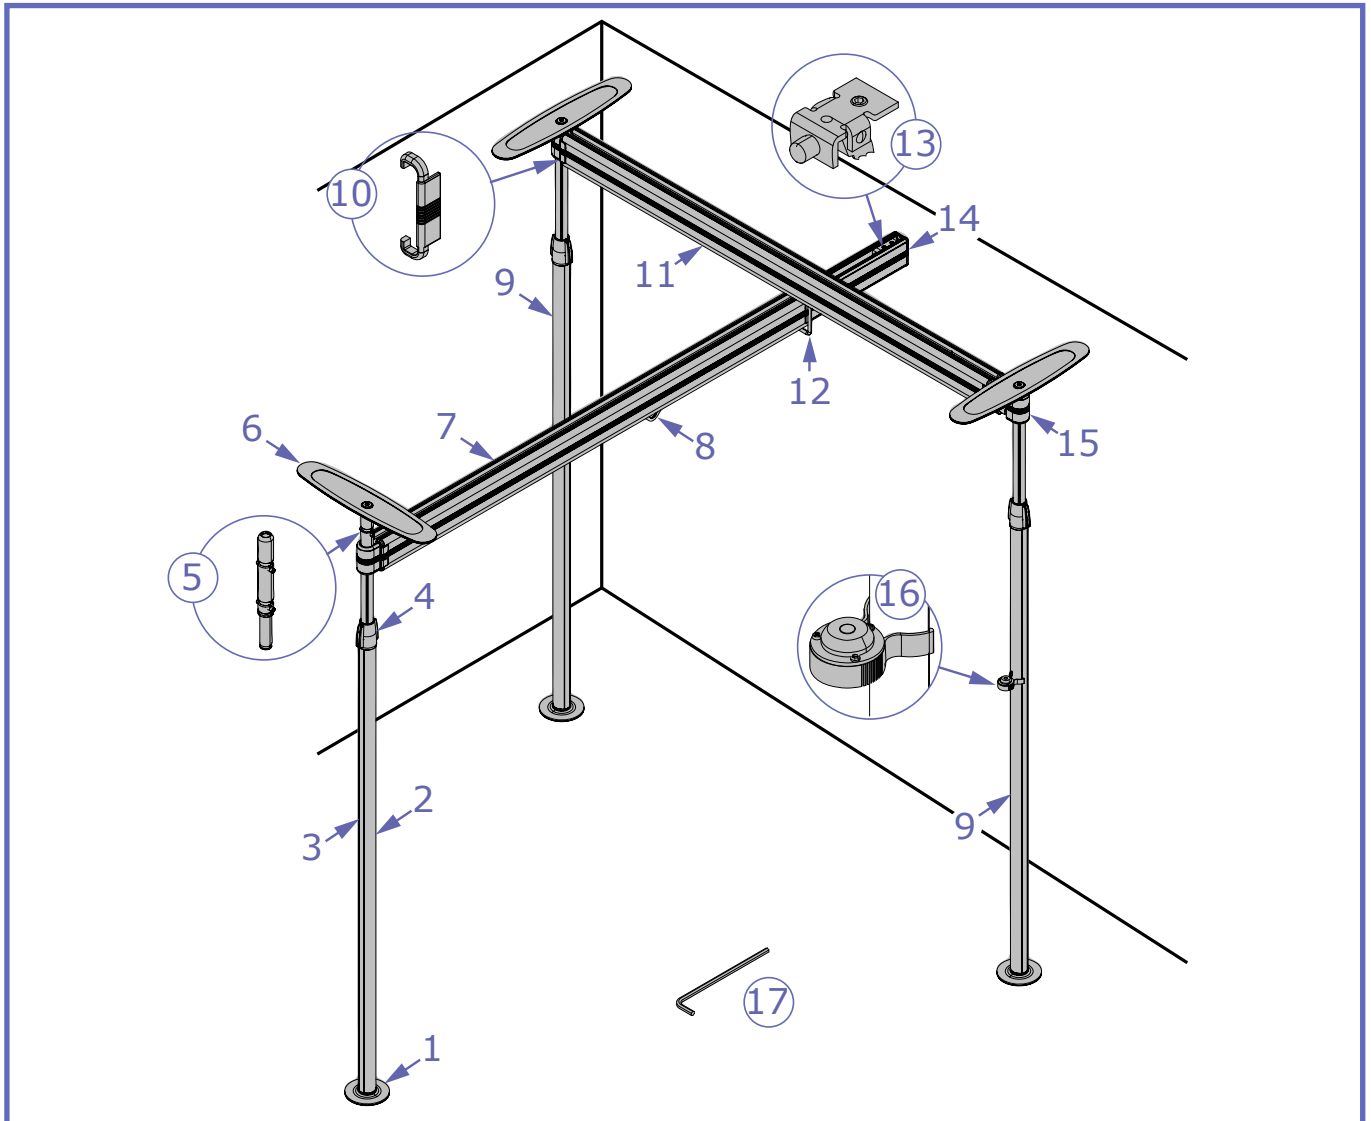
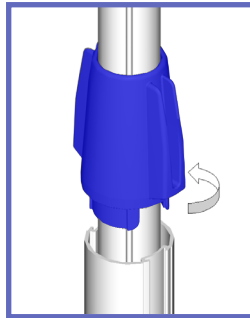

Fig. 2
Fig. 16
- 3) Place one round foot plate (see Fig. 2 - item № 1) on the floor where you want to place the first post of the *EASYTRACK* System.
- 4) Take the pivot post (see Fig. 2 - item № 2) out of the box and the post top for pivot post (see Fig. 2 - item № 5). Insert the post top into the post until it snaps into place.
- 5) Take one of the posts out of the box. Turn the post upright. Place the clip-on level (see Fig. 2 - item № 16) onto the post at approximately waist height.
- 7) Place one top plate (see Fig. 2 - item № 6) into the top of the post, press firmly and evenly downward until the top plate "clicks" into place.
- 9) Lift the blue locking handle out of the lower portion of the post (see Fig. 2 - item № 4). Using the blue piece as a handle, twist the post as shown in Fig. 16: